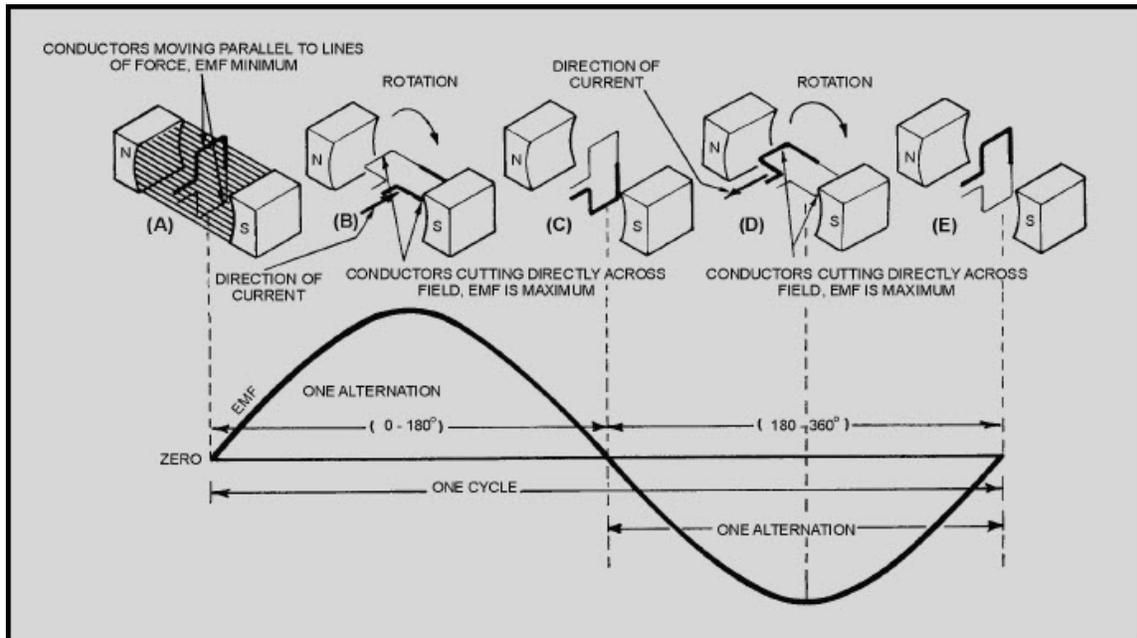

Figure 1-8 Basic alternating-current generator
By applying the left-hand rule to the dark half of the loop in (B) in figure 1-8, you will find that the current flows in the direction indicated by the heavy arrow. Similarly, by using the left-hand rule on the light half of the loop, you will find that current therein flows in the opposite direction. The two induced voltages in the loop add together to form one total emf. It is this emf which causes the current in the loop.
When the loop rotates to the position shown in (D) of figure 1-8, the action reverses. The dark half is moving up instead of down, and the light half is moving down instead of up. By applying the left-hand rule once again, you will see that the total induced emf and its resulting current have reversed direction. The voltage builds up to maximum in this new direction, as shown by the sine curve in figure 1-8. The loop finally returns to its original position (E), at which point voltage is again zero. The sine curve represents one complete cycle of voltage generated by the rotating loop. All the illustrations used in this chapter show the wire loop moving in a clockwise direction. In actual practice, the loop can be moved clockwise or counterclockwise. Regardless of the direction of movement, the left-hand rule applies.
If the loop in the figure 1-8 (A) makes one complete revolution each second, the generator produces one complete cycle of ac during each second (1 Hz). Increasing the number of revolutions to two per second will produce two complete cycles of ac per second (2 Hz). The number of complete cycles of alternating current or voltage completed each second is referred to as the FREQUENCY. Frequency is always measured and expressed in hertz.